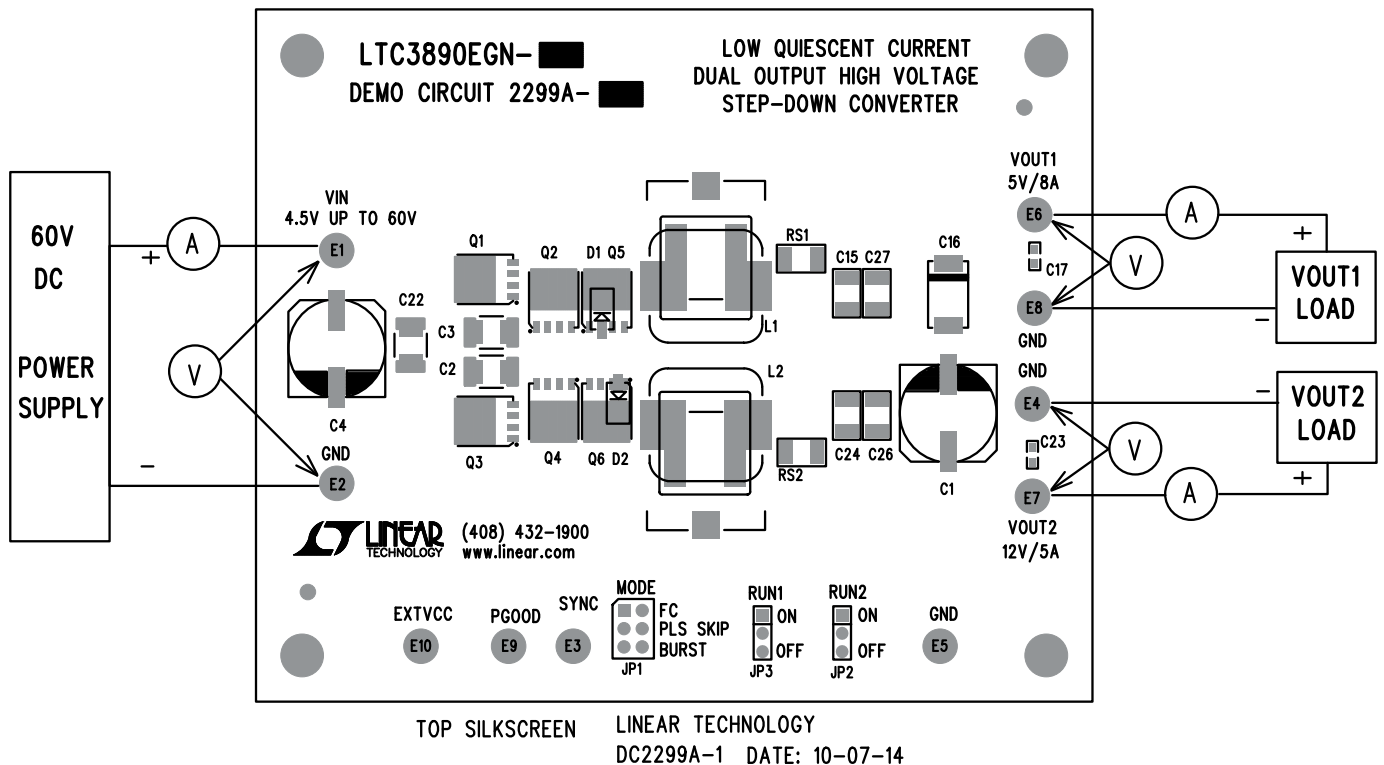

Figure 1. Proper Measurement Equipment Setup
Demonstration circuit 2299A is easy to set up to evaluate the performance of the LTC3890. For proper measurement equipment configuration, set up the circuit according to the diagram in Figure 1. Before proceeding to test, insert shunts into JP3 and JP2 (RUN1, 2) into the OFF position, which connects the RUN pins to ground (GND), and thus, shuts down the outputs. Set jumper JP1 (MODE) into FCM (Forced Counties Mode) position.
1. With the DC2299A set up according to the proper measurement and equipment in Figure 1, apply 20V at V_{IN} . Measure V_{OUT} ; it should read 0V. If desired, one can measure the shutdown supply current at this point. The supply current will be approximately $50\mu A$, or less, in shutdown.